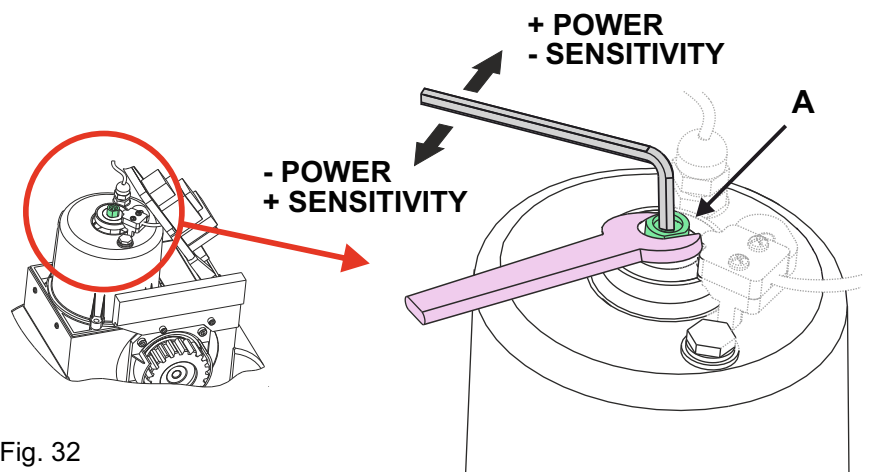

Fig. 32
10.2. To adjust the clutch, act on the grub screw «A» - Fig. 32 - as follows: